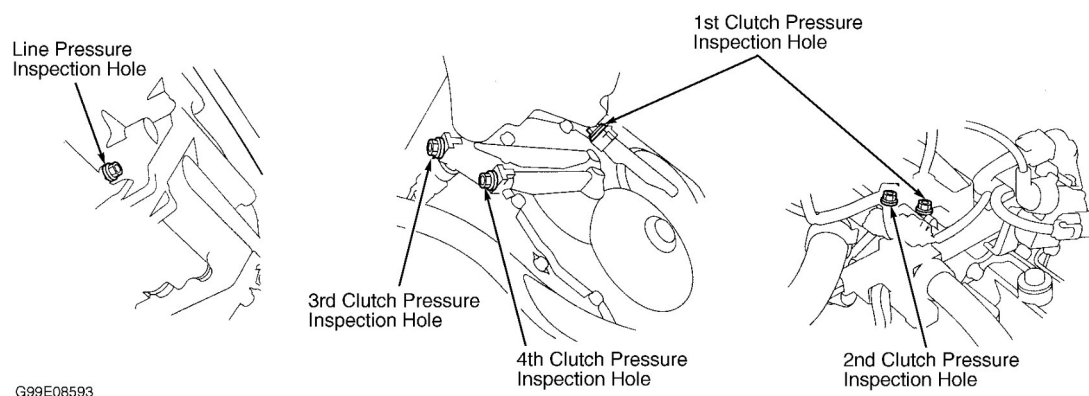

Fig. 4: Testing Line & Clutch Pressures
1. With engine off, remove appropriate pressure tap plugs to be tested. See **Fig. 4** . Attach Pressure Gauge Set (07406-0020400) to appropriate pressure taps. Tighten hose fittings to 13 ft. lbs. (18 N.m).